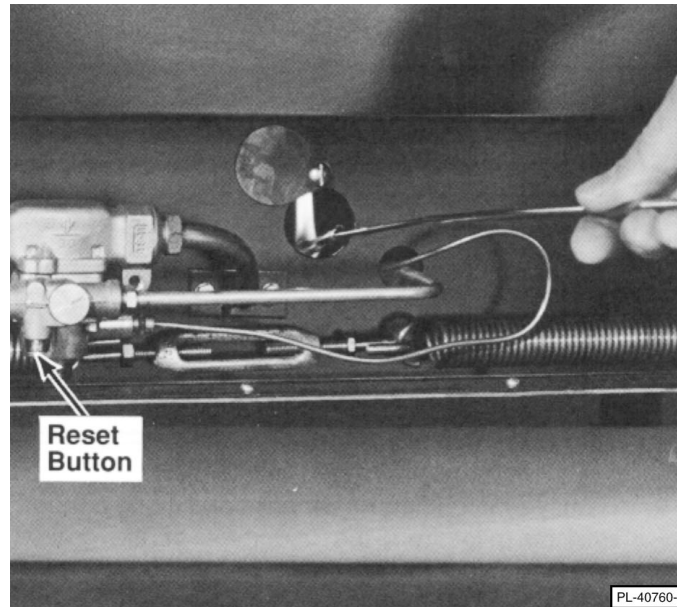

Fig. 12
2. Depress the reset button located behind the lower front panel and light pilot with a lit taper (Fig. 12). Continue to hold reset button in for 1 minute.